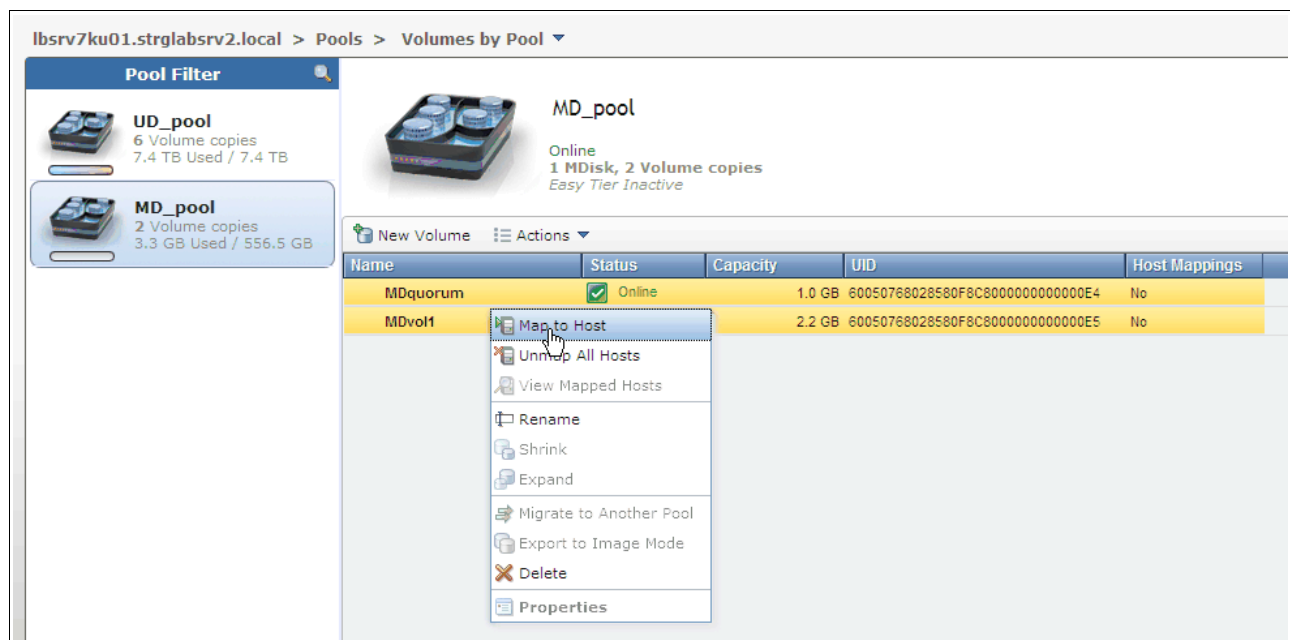

Figure 10-20 Volumes by pool
2. Click **Volumes by Pool** to open the list of volumes separated by pool (Figure 10-20). Mark the volumes, right-click, and click **Map to Host**.